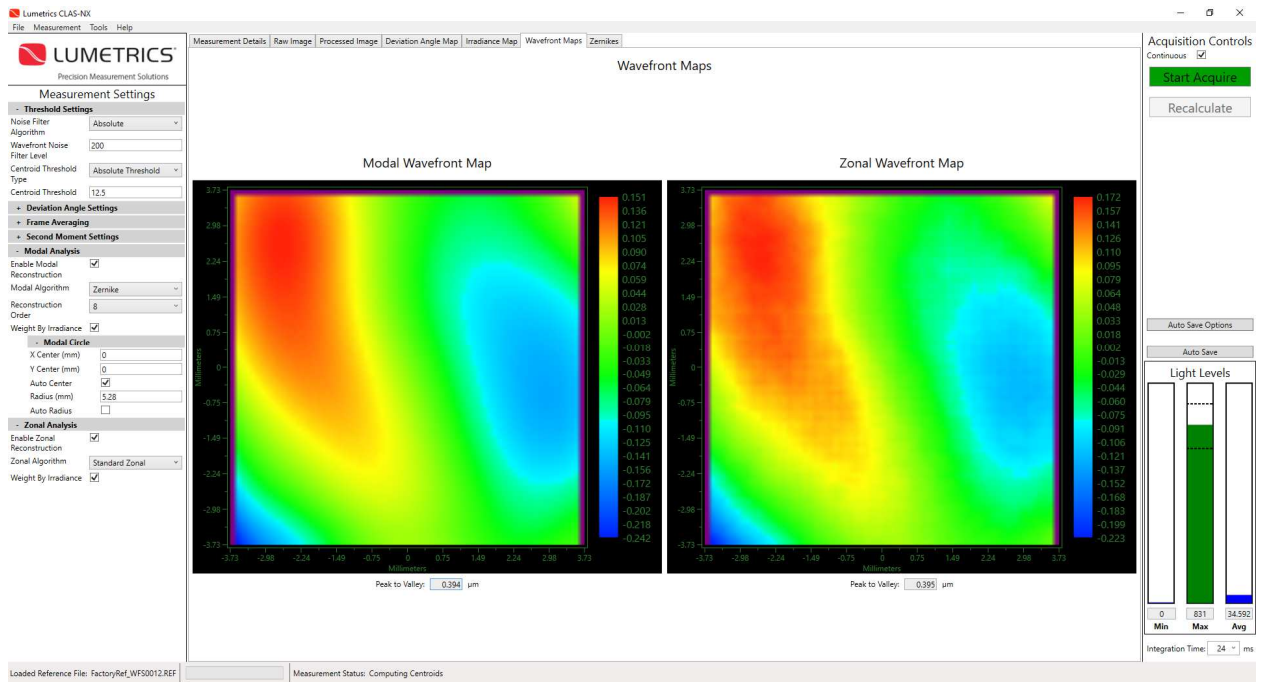

Figure 44: Wavefront maps tab showing flat wavefronts by both modal and zonal reconstruction methods.
7. Open the wavefront tab. Typical results: The wavefront map should be very flat, i.e. the peak to valley reading should be low, approximately 0.01 to 1 μm depending upon the quality of the optics and alignment. See Figure 44.